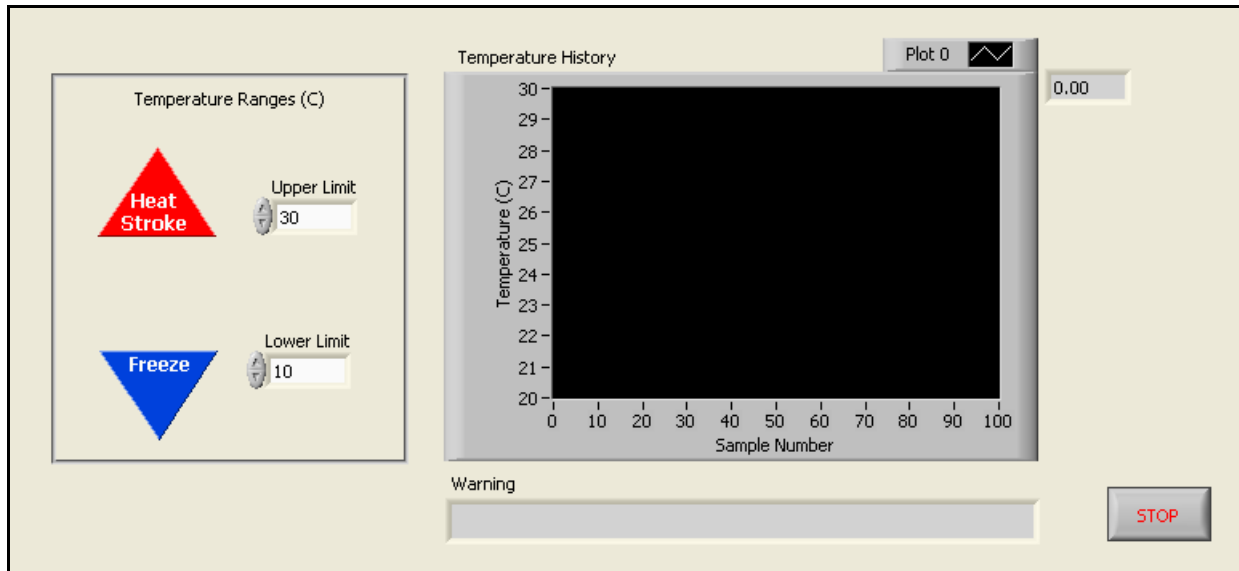

Figure 3-4. Front Panel for the Temperature Weather Station Project
Each input entered and each output displayed must appear on the front panel. Complete the following instructions to create a front panel similar to that shown in Figure 3-4. This front panel retrieves the upper and lower temperature limits and a stop Boolean and displays the warning string and the temperature history.
9. Add labels and decorations and arrange the objects on the front panel to increase the usability. Refer to Figure 3-4 for suggestions, or design the front panel your own way. Tips:
- Temperature Ranges (C) is a free label. You can create a free label by double-clicking in an empty area of the front panel and typing the text.